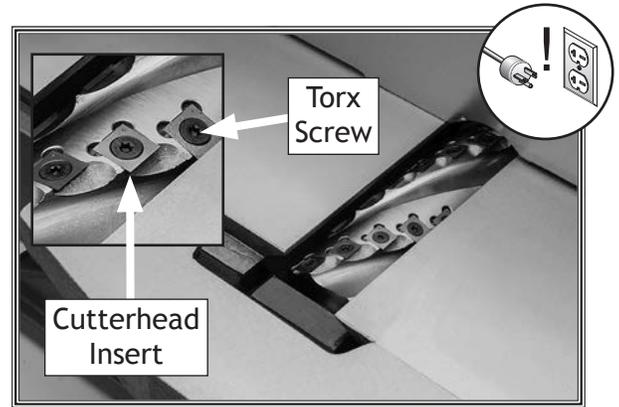

Figure 36. Example of cutterhead inserts and Torx screws.
5. Carefully clean away all sawdust or debris from top of insert, Torx screw, and surrounding area (see Figure 36).